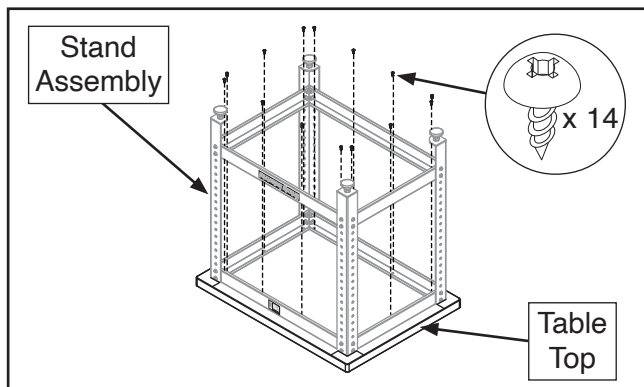

Figure 8. Attaching stand assembly to table top.
8. Place (1) stand assembly on each tabletop, then secure each with (14) M5 x 25 tap screws (see **Figure 8**).